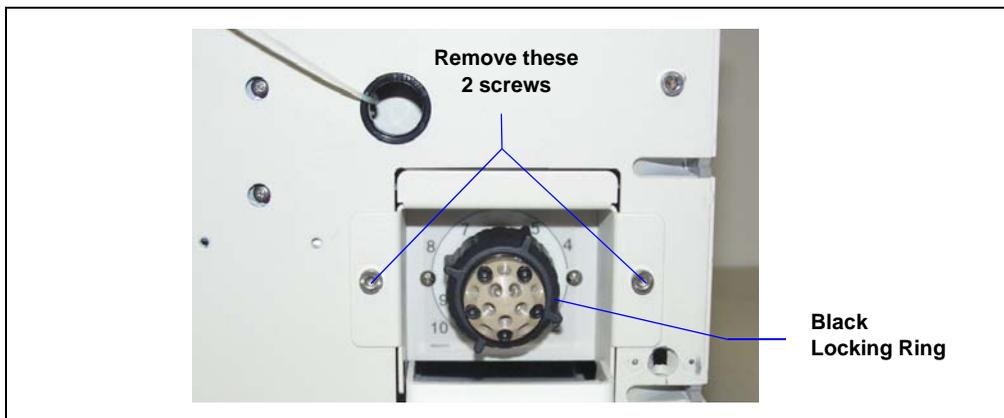

Figure 5-15. Removing the Valve Assembly
- a. Use a 3-mm Allen wrench to remove the two screws holding the valve assembly in place (see Figure 5-15).
6. Unscrew the black locking ring on the front of the valve (see Figure 5-15) and remove the ring.